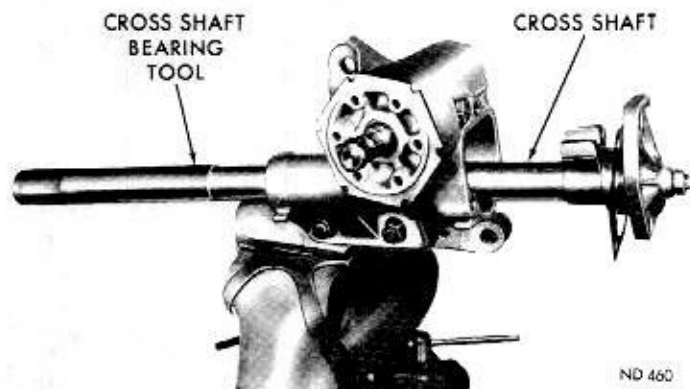

Fig. 4—Removing Cross Shaft
(2) Loosen cross shaft adjusting screw lock nut, and back out screw about two turns to relieve load caused by close mesh between ball nut rack and sector gear teeth. **Remove cross shaft seal as outlined in "Cross Shaft Oil Seal Replacement."**
(3) Position steering wormshaft in straightahead position.
(4) Remove bolts from the cross shaft cover, and slowly remove cross shaft while sliding arbor Tool C-3875 into housing (Fig. 4).